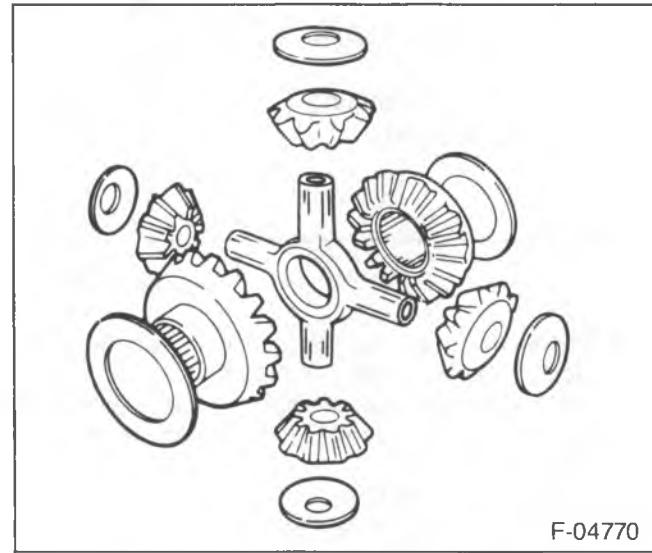
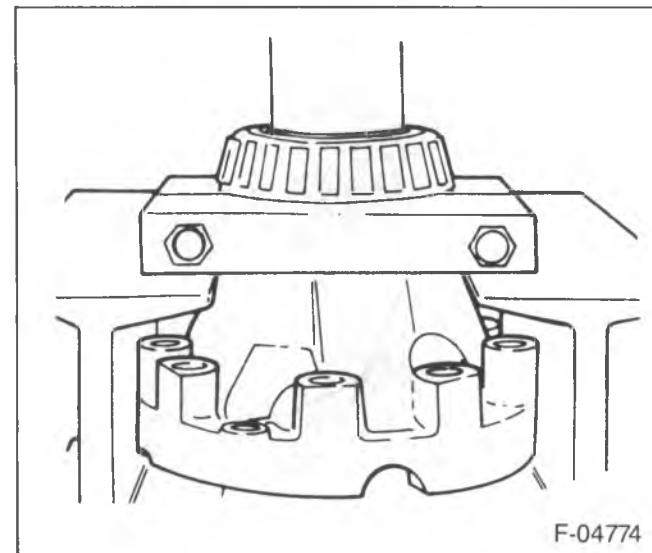

Figure 9—Differential Components
Figure 10—Removing the Differential Side Bearing
- 10. Side gears (43) and thrust washers (38) (figure 9).
- 11. Pinion gears (41) and thrust washers (42).
- 12. Differential pinion spider (40).
- 13. Ring gear nuts (34), washers (35), and bolts (39).
- 14. Ring gear (37) from the differential case.
- 15. Differential side bearings (33) using J 22912 and an arbor press (figure 10).